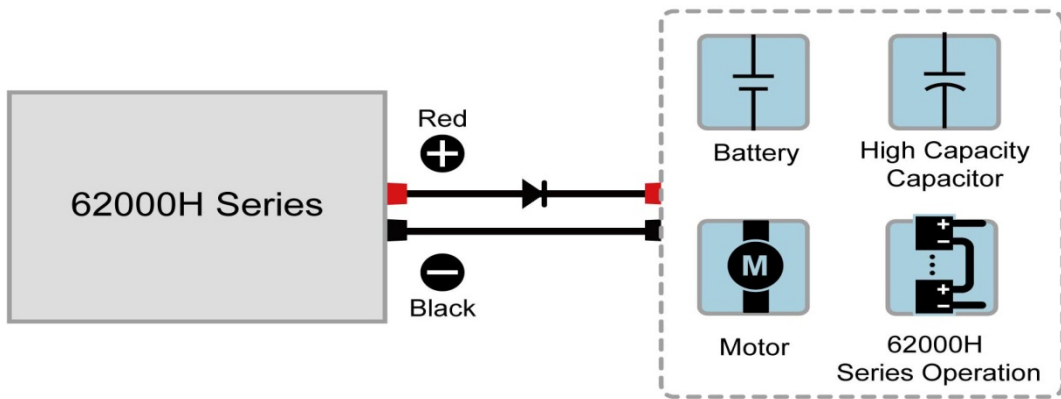

Figure 1-1
1. If it is applied to battery charge or inductance load such as motors, the output port needs to connect a diode in series to prevent the load current from backwash and damage the device interior, see Figure 1-1